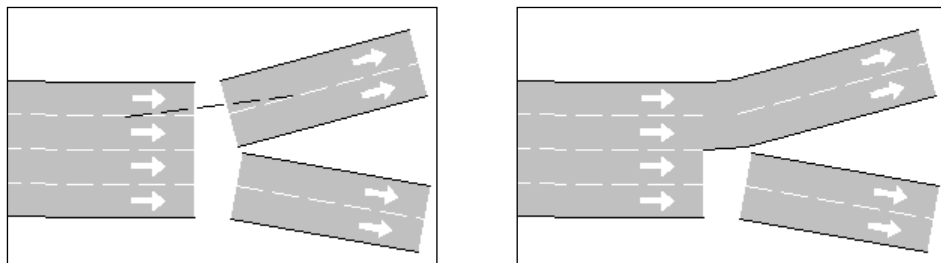

Figure 206 Creating a turn with the connection tool
- If the Ctrl key is not pressed while creating the connection, when the number of origin and destination lanes is different, for the turn the section with fewer lanes will be matched with the closest lanes in the other section. See Figure 206 for details.